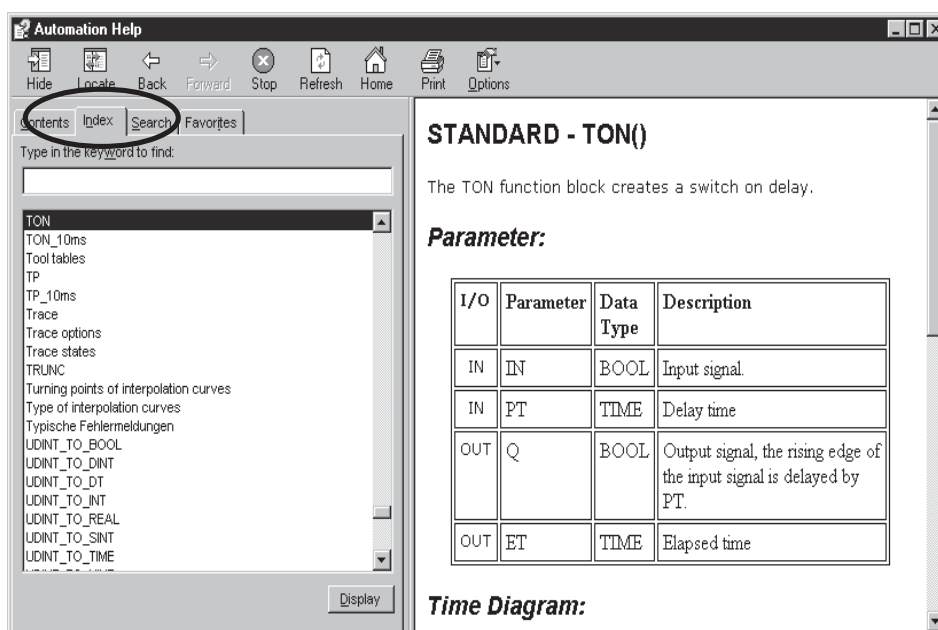

Fig. 11.7: Online help for TON
- Search for the component in the online help using the Index tab (see Fig. 11.7)